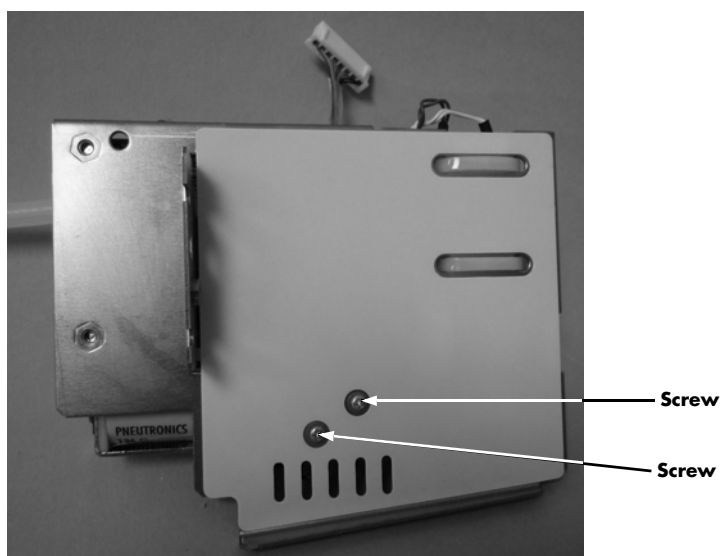

FIGURE 4-34 Remove two (2) screws.
3. Remove the two (2) screws on the bottom of the NIBP rack as shown in FIGURE 4-34.